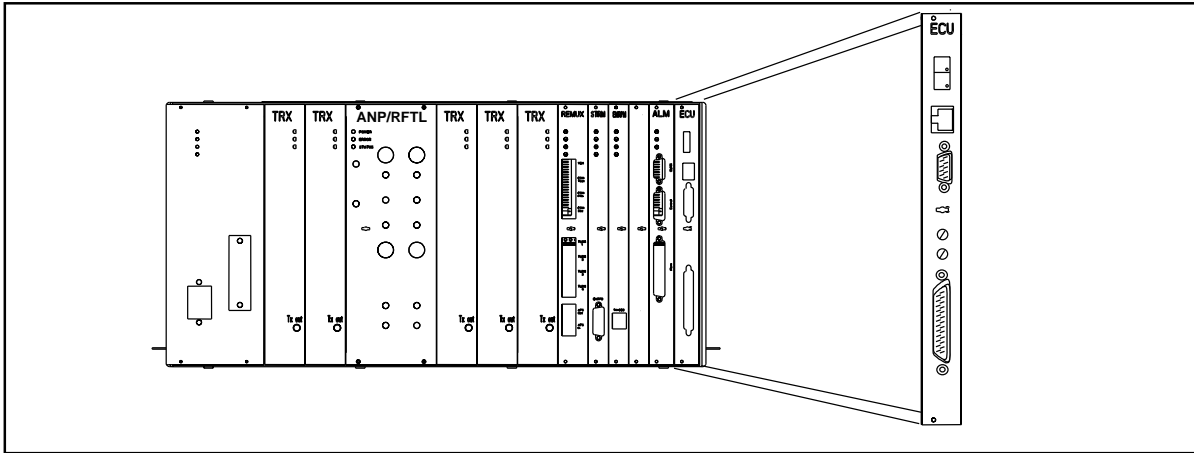

Figure 5-17. Environmental Control Unit (ECU)
- 4. Refer to Figure 5-17 on page 5-39)